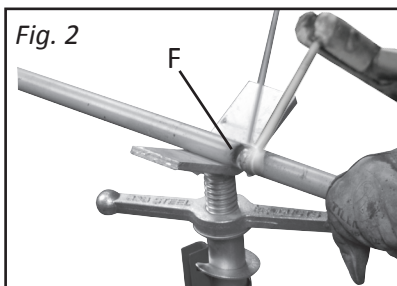

Fig. 2
2. Weld needed reach rod (*F*) together. (Fig. 2)